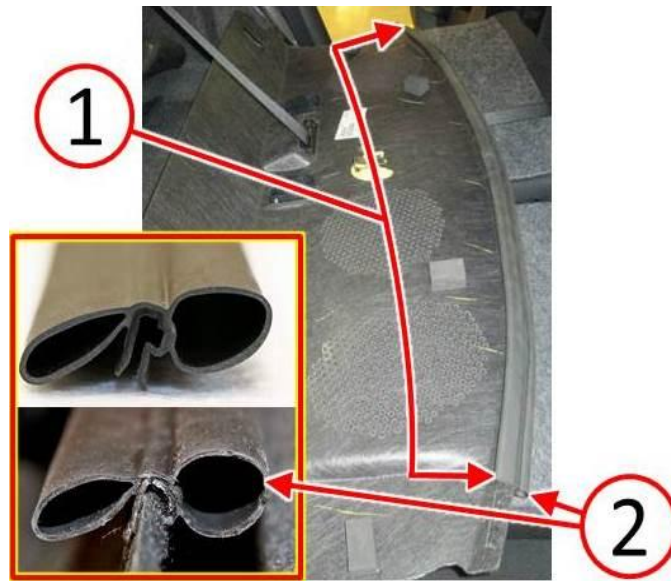

Fig. 3 Seal Installed On Rear Shelf Panel
13. Install the seal to the rear edge of the rear shelf panel (1) with the round bulb of the seal (2) facing toward the top visible side of the shelf when installed. Position the seal in the center of the shelf panel (1) using the first indent on the underside of the shelf panel where the foam was previously installed as a guide (Fig. 3).